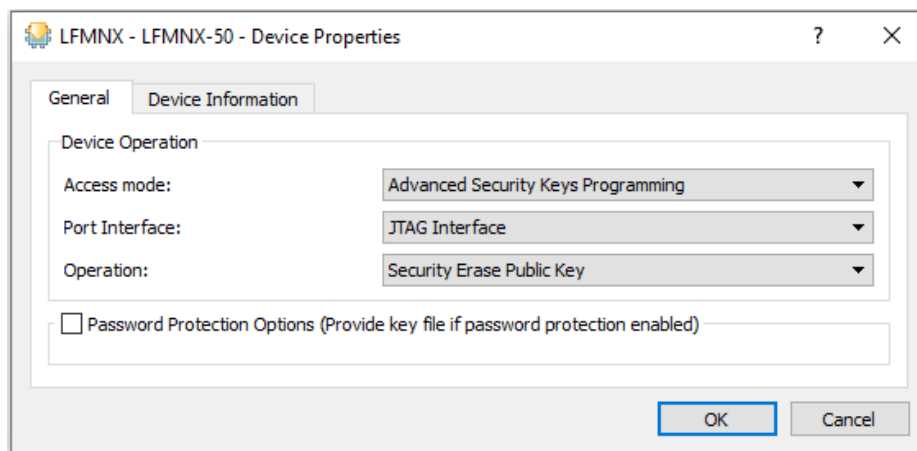

Figure 6.3. Mach-NX Erase Public Key
7. Double-click on **Operation** to open the **Device Properties** dialog box, as shown in Figure 6.3.